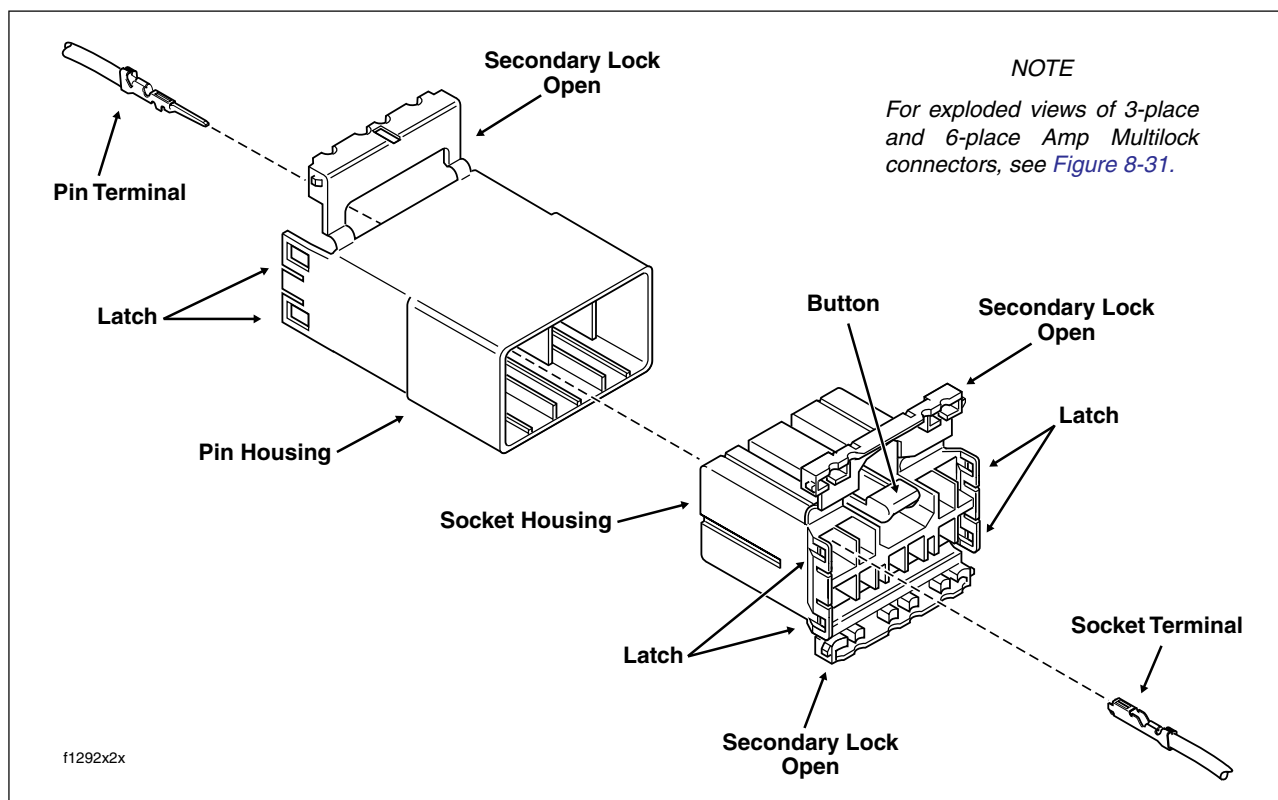

Figure 8-27. 10-Place Amp Multilock Connector (Exploded View)
2. Depress the button on the socket terminal side of the connector (plug) and pull apart the pin and socket halves. See Figure 8-27.